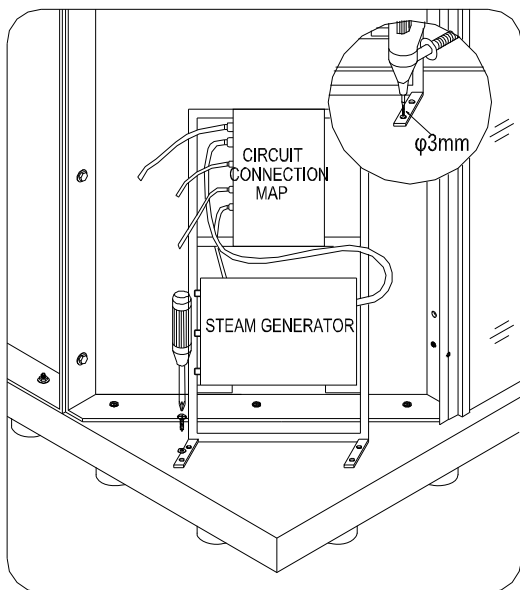

Fig 15
13. Secure the **Generator assembly (37)** to the back corner of the tray with **Round head screw ST4.2x25 (17)**. See Fig 15 for details.